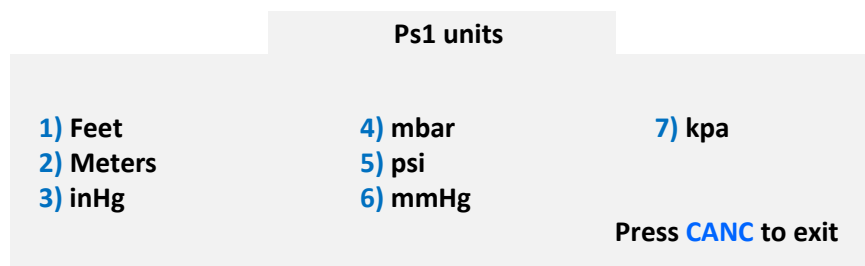

Figure 3.6 : Select Ps1 units
Ps1 units can be changed only if the key# symbol (5) is displayed to the right of the Ps1 units field. Press key '5' on the keypad and the Lower section of the display will appear as shown in Figure 3.6 below.